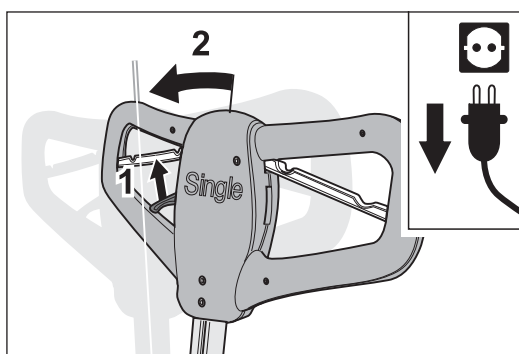

Fig. 13 Pull the adjusting lever to release the lock and
- 3 Pull the adjusting lever on the handle towards you to release the lock of the guide tube, and push the guide tube into and past the vertical position until it reaches the mechanical stop (Fig. 13).